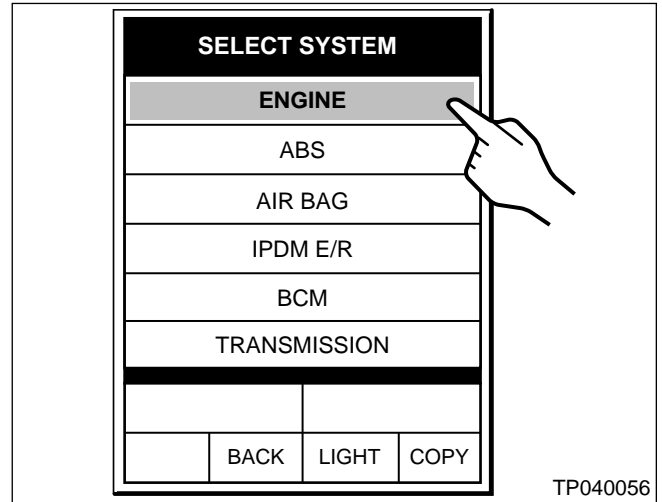

Figure 8
- a. Select **ENGINE** on the “Select System” screen. See Figure 8.